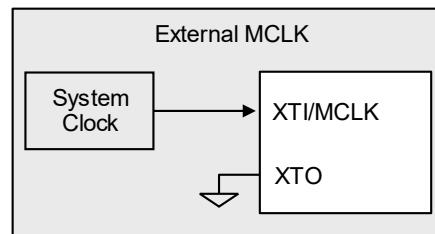

Figure 4-10. System Clocking—External MCLK Mode
- Externally sourced through the XTI/MCLK input pin (see Fig. 4-10)
- PLL reference clock is provided through the XTI/MCLK input pin (see Fig. 4-10), then use internal PLL to convert into MCLK_INT